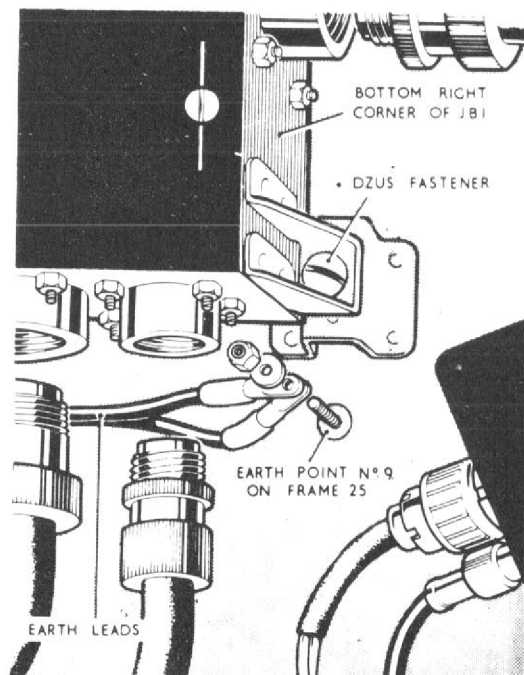

Fig.4 J.B.1 lower attachments and earth point No.9
- (1) Render the aircraft electrically safe, as described in Group A.1.
- (2) Open the engine starter access door.
- (3) Disconnect the earth lead EA9 from earth point 9 located adjacent to the lower right hand corner J.B.1. (*fig.4*).
- (4) Disconnect all the plugs and sockets on the cable assemblies at J.B.1. Seal off the plugs and sockets with approved caps and covers and stow the cable assemblies away from the box.
- (5) Release the two Dzus fasteners at the lower corners of the box (*fig.4*) and lift the box upwards to disengage the two top mountings.
- (6) Lower the box and remove it from the aircraft, complete with earth lead EA9.